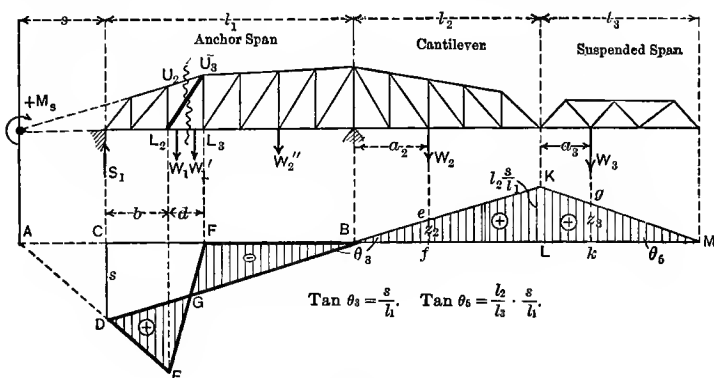

FIG. 32.
**Diagonal of Anchor Span.**—As shown in Fig. 32, the diagonal  $U_3L_2$ , has its center of moments at the intersection of the two cut chords  $U_2U_3$  and  $L_2L_3$ . For loads in this span the moment influence diagram is the base diagram as shown by heavy lined shaded figure in Fig. 32.